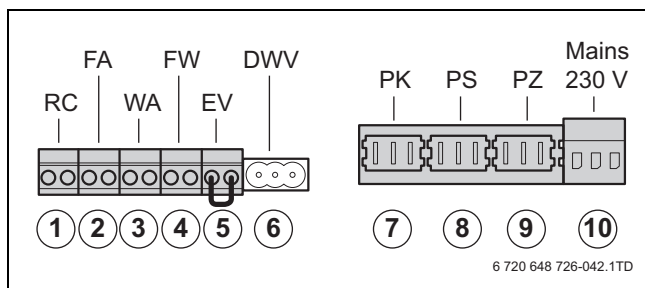

Fig. 42 Terminal strip connections
Items 1 – 6 are low-voltage connections and items 7 – 10 are 230 V-connections (→ fig. 42).
► Please be aware that there may be a voltage on items 7 – 10 (230 V), when power is supplied to the boiler.